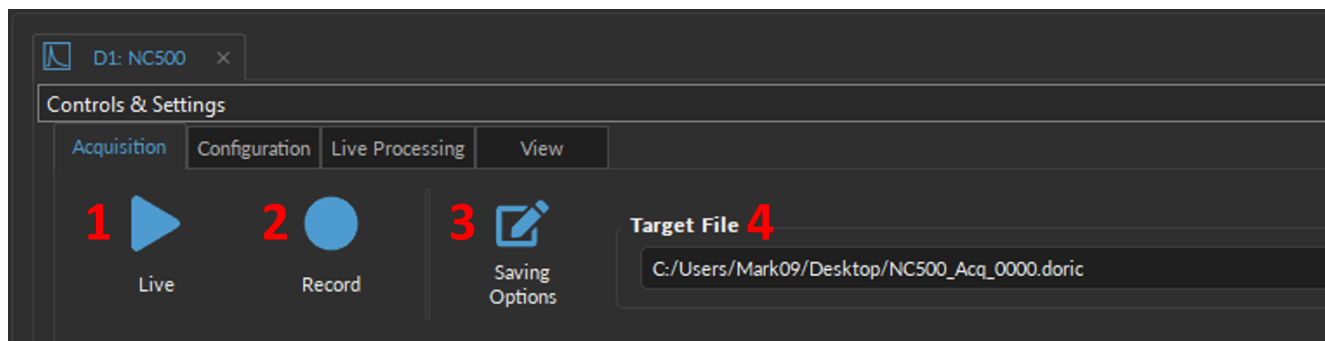
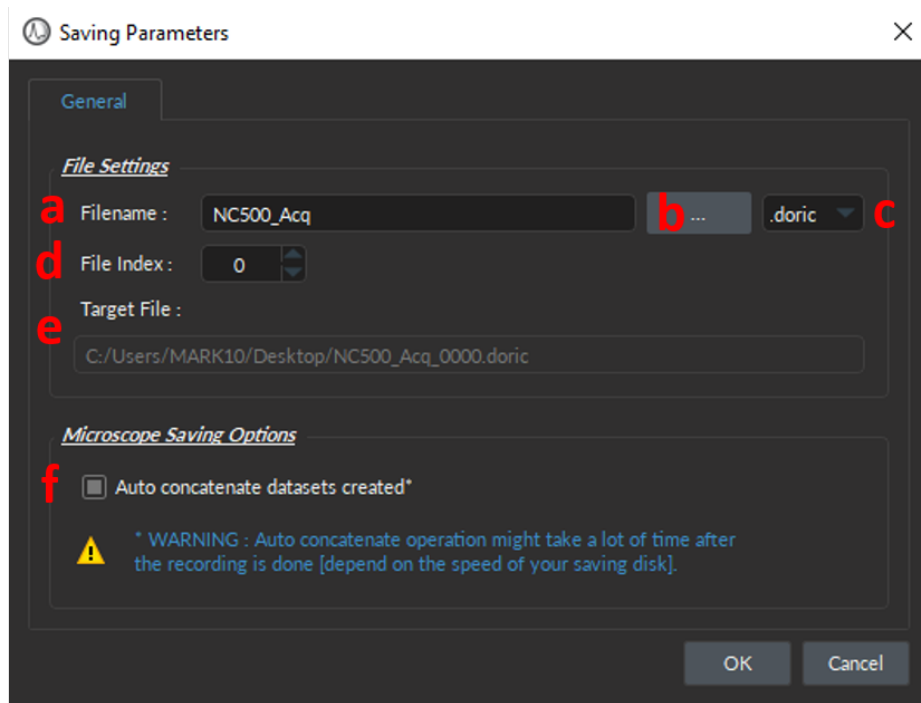

Figure 11.7: Acquisition Tab
Figure 11.8: Saving Parameters window
The **Acquisition** Tab contains the following tools (Fig. 11.7):
1. The **Live** button (Fig. 11.7, 1) activates all configured channels from the **Configuration**. This mode does not save data and only keeps around 1 minute of data on screen. The **Live** mode is useful for quickly testing the recording software and ensuring the parameters are properly set.
2. The **Record** button (Fig. 11.7, 2) activates all configured channels from the **Configuration** and saves the recorded data in the *.doric* file (directory specified in Section 11.3, no. 3). However, modifying the **Master Trigger Options** (Section 11.5, no. 2b) from the default (*Software Command* mode) to any other options changes the function of the **Record** button. For instance, in the *Triggered* or *Gated* mode, the **Record** button sets the acquisition system to a listening state that waits for a trigger from a DIO channel to start the recording (Section 11.5, no. 2b, triggered & gated). Alternatively, when using the **TimeSeries** mode, the **Record** button opens the **TimeSeries** window (Fig. 11.26b) where users can set the timing parameters and launch the recording (Section 11.5, no. 2b, timeseries).
3. The **Saving Options** (Fig. 11.7, 3) button opens the **Saving Parameters** window (Fig. 11.8), which includes:
- a) The **Filename** text-box lets users specify the name of the data file that will be saved (Fig. 11.8, a).
- b) The **[...]** button opens a File Explorer window where users can select the folder where the data will be saved (Fig. 11.8, b).
- c) The **File format** (Fig. 11.8, c) is **.doric**¹, an HDF5-based format that supports metadata (signal, video, images, tables, parameters, etc.). However, while not recommended, it is possible to export a **.doric** file into **.csv** format through the **Doric File Editor** module (Chapter 12, Section 12.2.4).
- d) The **File Index** (Fig. 11.8, d) box is used to define the current indexation number used for multiple files saved during the same measurement session. The suffix is incremented automatically when recording multiple files within the same path & filename during the same session. This prevents accidentally overwriting data.
- e) The **Target File** (Fig. 11.8, e) displays the absolute path and filename where the data will be saved.
- f) The **Auto concatenate datasets created** checkbox (Fig. 11.8, f), if checked, will automatically merge data files of larger size (above 10 Gb) that would be saved into individual files if the box is unchecked. For the latest case, any recording of more than 10 Gb in size will be saved accordingly into split files with the same name but a different File Index. Note that the Auto concatenate operation might take a lot of time after the recording is done to create a single file.
4. The **Target File** (Fig. 11.7, 4) displays the path and file name (from Section 11.3, no. 3e) where the data will be stored once the **Record** button is pressed. Select the **Saving Options** button (Fig. 11.7, 3) to change the path and filename.